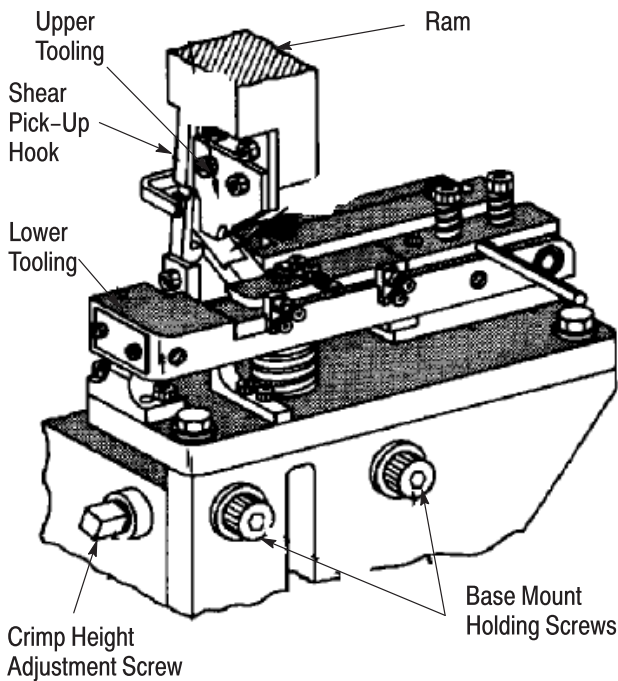

Figure 3
2. Loosen the two base mount holding screws and turn the crimp height adjustment screw “down” until the base mount is at it’s lowest point. See Figure 3.
4. Pull the ram toward you and place the shear pick up hook under the shear blade. Refer to Figure 3.
3. Loosen the two base mount holding screws. Refer to Figure 3.